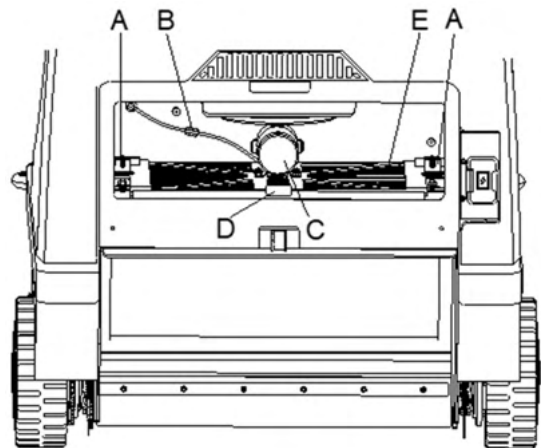
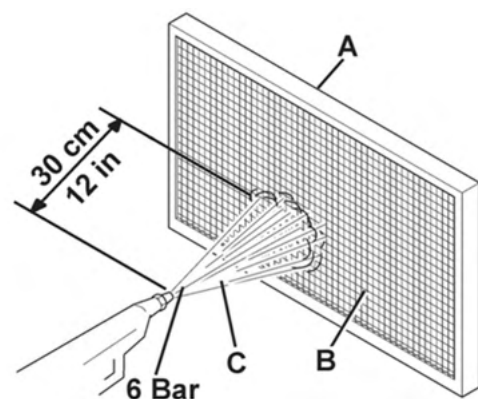

Figure 31
Figure 32
8. Disconnect the filter shaker motor (C, Figure 31) connector (B, Figure 31).
9. Remove the dust filter fixing frame (D, Figure 31).
10. Remove the dust filter (E, Figure 31).
11. In an outdoor area, clean the filter by shaking it on a level and clean surface, tapping the side (A, Figure 32) opposite to the wire gauze (B, Figure 32). Complete the cleaning procedure by using compressed air (C, Figure 32) at a maximum of 6 bars (85 psi), blowing only from the side of the wire gauze (B, Figure 32), at a minimum distance of 30 cm. According to the filter type, observe the following cautions:
- Install the filter (E, Figure 31) with the wire gauze (B, Figure 32) facing upwards.